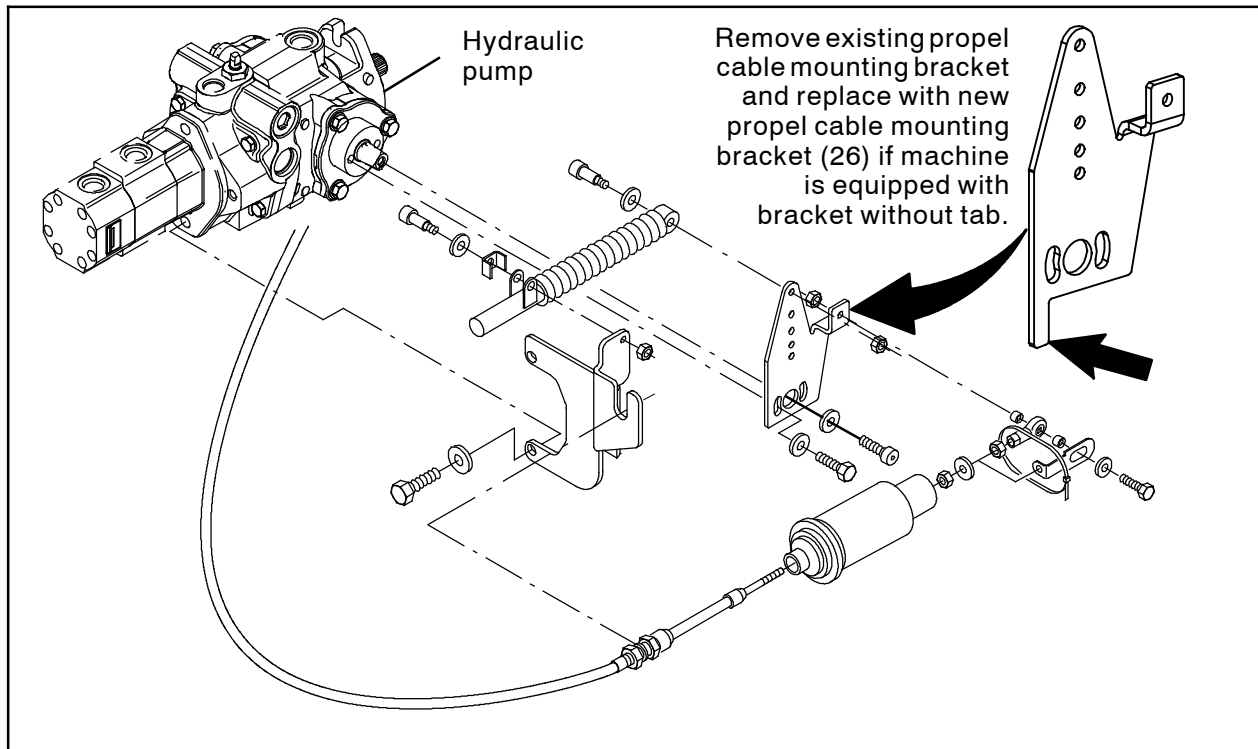

FIG. 2
4. Check the propel cable mounting bracket on the hydraulic pump. If propel cable mounting bracket has a tab located on bottom of bracket proceed to the *INSTALLATION* section. If the propel cable mounting bracket does not have tab located on the bottom of bracket, replace existing propel cable mounting bracket with new propel cable mounting bracket (26). (Fig. 2)
5. If the propel cable mounting bracket was replaced, adjust the new propel cable mounting bracket (26) so the machine does not move instantly upon start up, before the directional pedal is used to move the machine.